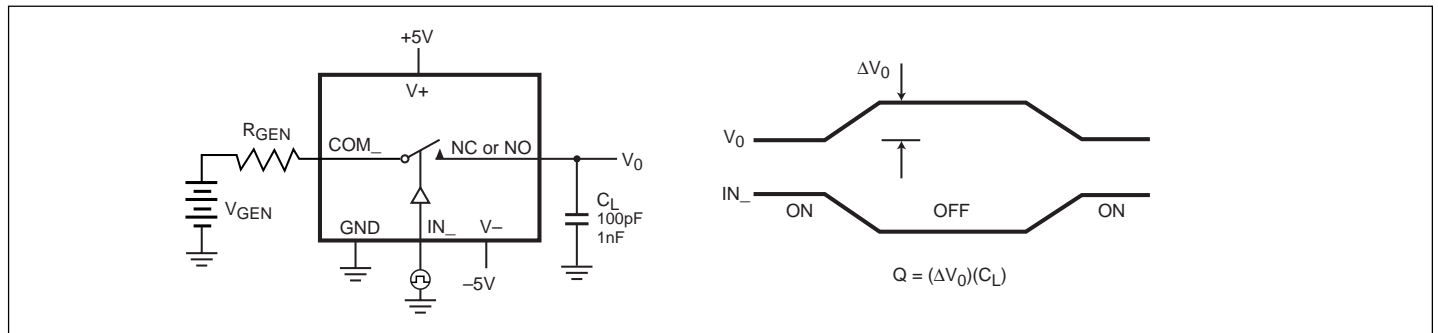

Figure 6. Charge Injection
- See Figure 6. Off isolation = 20log₁₀ V_{COM}/V_{NC} or V_{NO}, V_{COM} = output, V_{NC} or V_{NO} = input to off switch